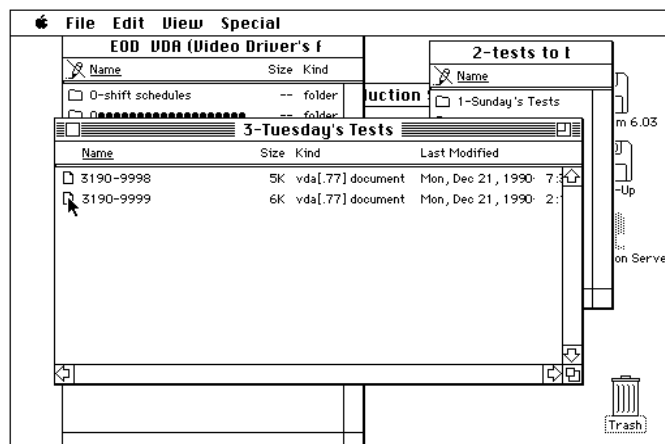

Figure 13
- 12.4 Position the mouse pointer in the daily tests window on the appropriate test number and double click to open it. See Figure 13. If the test number cannot be located, notify the VT senior technician.